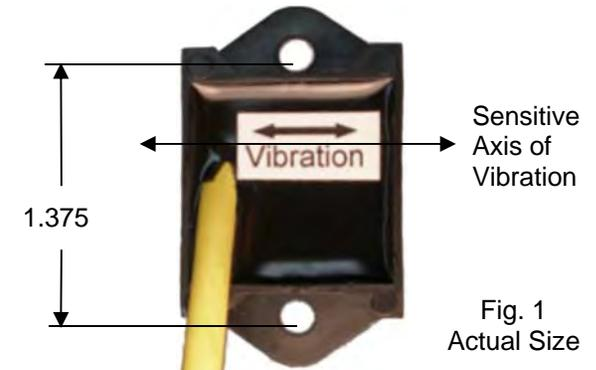
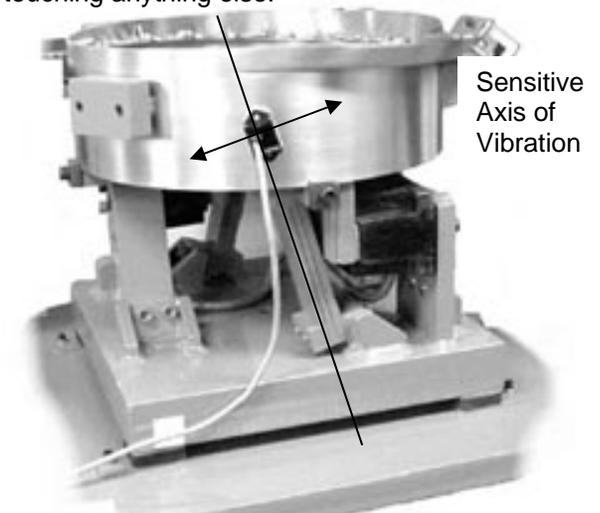

Fig. 1
Fig. 2 The arrow shows the direction of vibration which is at a right angle to the spring pack.
A. ORIENT THE SENSOR so that its sensitive axis is in the same direction as the vibration of the feeder. The arrow in figure 1 shows the sensor's sensitive axis. Align the sensitive axis of the sensor in the same direction as the vibration (see figure 2). The sensor must be oriented correctly for proper operation.
- 6) Remove the vibration sensor from its protective packaging. Remove the liner from the adhesive backing. Avoid touching the tape. Align the sensor as shown in figures 1 and 2. Apply the vibration sensor to the prepared area of the feeder. Press the sensor very firmly onto the feeder surface for at least 10 seconds.
Use a cable tie and an adhesive-backed mount to attach the sensor cable to the side of the drive base. See Figure 2. Clean the mounting area before applying the adhesive-backed mount.